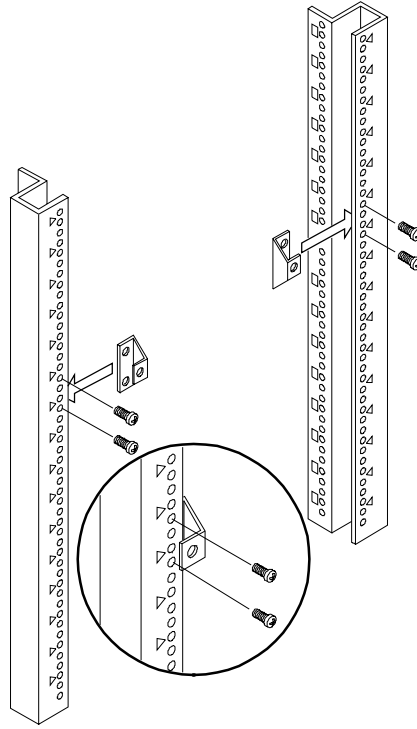

Figure 13-4. Attaching the Front Brackets to the Rack
2. Attach the brackets to the front columns, using the two screws provided in the hardware kit. See Figure 13-4.